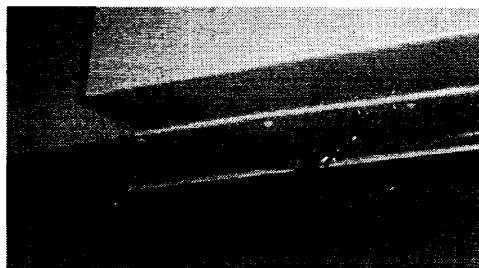

Figure 3
4. For units with optional windshield defogger code 048PKD, the first latch bracket can be installed on the flange of the bulkhead in order to clear the grille. See Figure 3.